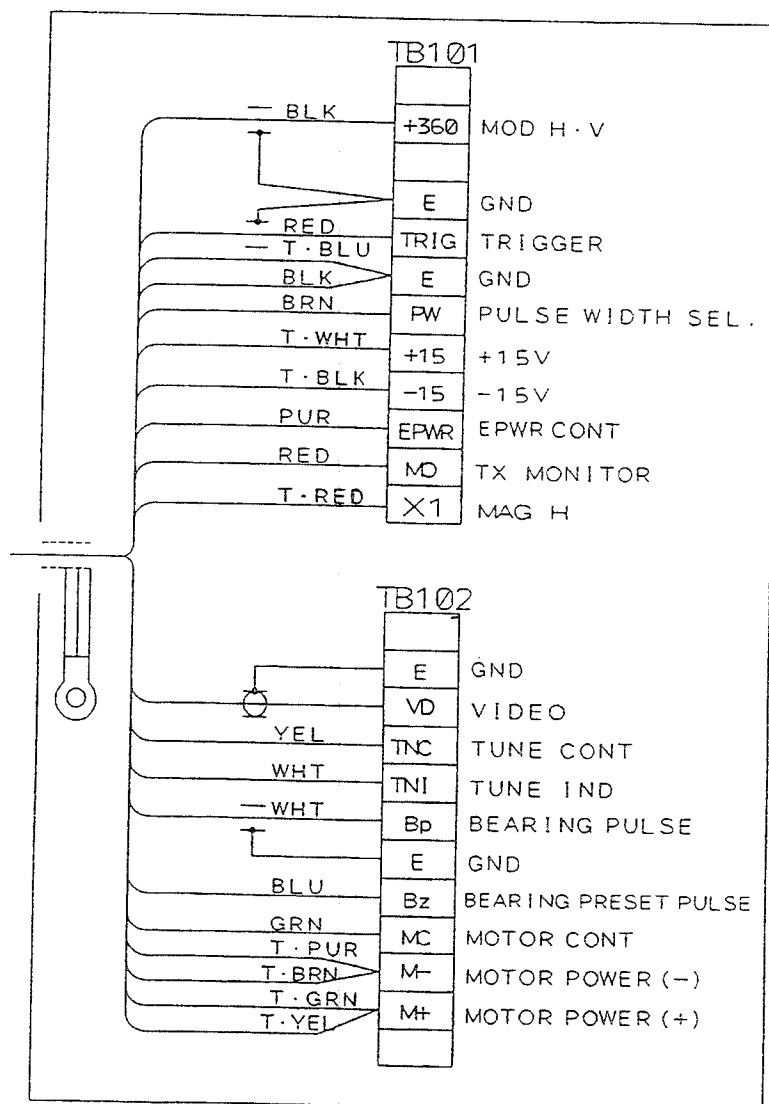

Fig. 2-9 INTERUNIT WIRING FOR JMA-3800 RADAR
- 6) Follow the wire colors in Fig. 2-9, attach the wires to TB101 and TB102. While reinstalling the cable clamp, ensure that the cable shield is grounded in the clamp.